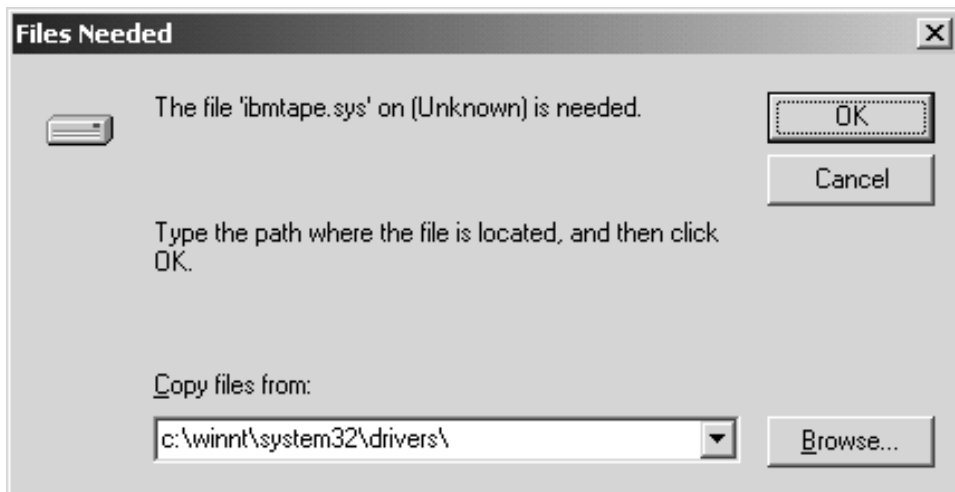

Figure 37. Files Needed Menu
16. If Windows detected new devices either during reboot or rescanning manually for hardware changes, then it will ask for the location of the device driver files. A **Files Needed** window opens. Enter the device driver files location in the **Copy files from:** box. See Figure 37.